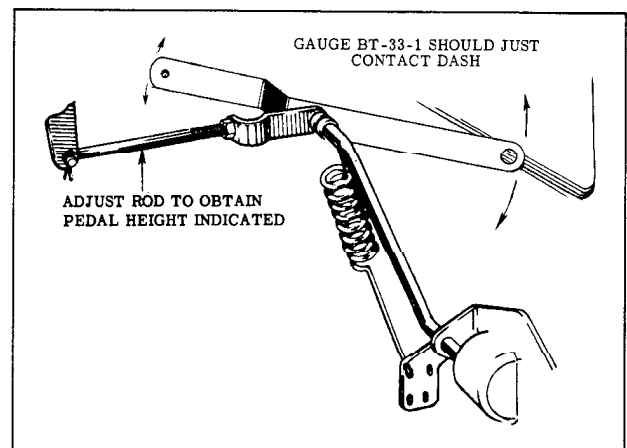

Fig. 3-140 Accelerator Pedal Height Adjustment
- Adjust accelerator rod "F" to position accelerator rod to bellcrank bushing "G" so that Gauge BT-33-1 just touches dash. (Fig. 3-140)